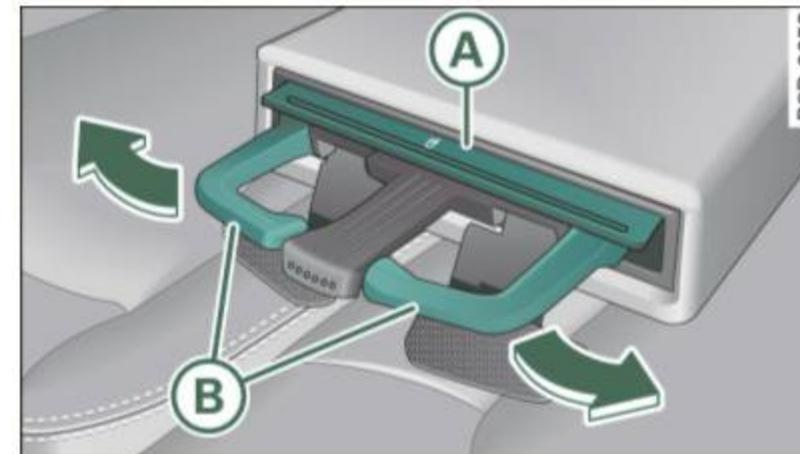

Fig. 92 Beverage storage in the rear armrest
- Press on the symbol  **A** ⇒ fig. 92.